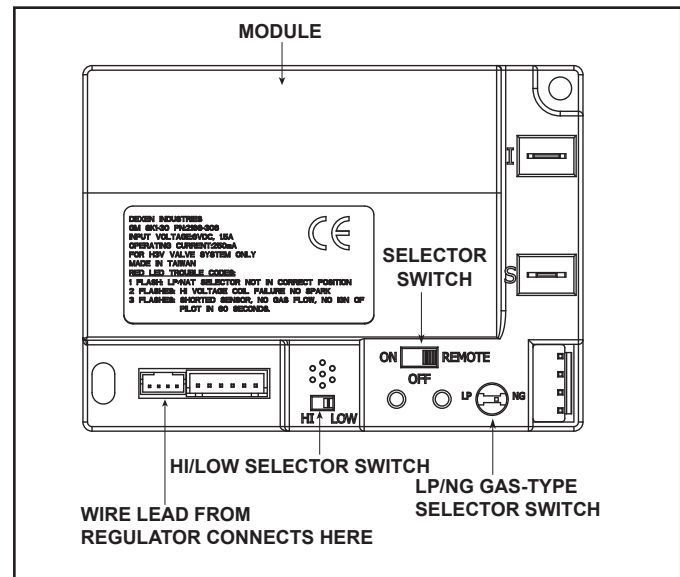

Figure 3.8 Control Module
- Slide the ON/REMOTE/OFF switch to the ON position. See Figure 3.8.
1. The control module has an ON/OFF/REMOTE selector switch that must be set. See Figure 3.8.
2. If using a wired wall switch with the module in REMOTE mode, the flame output can be adjusted with the HI/LO selector switch on the module. See Figure 3.8. Note that the flame HI/LO selector switch will become inactive once a remote control (RC300AU) is programmed to the control module. Note that the control module will always ignite the fireplace on HI and remain so for the initial 10 seconds of operation. If the HI/LO is switched to the LO position, the flame output will automatically drop to the lowest setting after the flame has been established for 10 seconds. After this 10 second period, the flame can be adjusted from HI to LO with the switch.
- Verify the ON/OFF/REMOTE switch is in the REMOTE position. Green LED light will blink three times and the control module will beep once 5 seconds later when ready. See Figure 3.8.